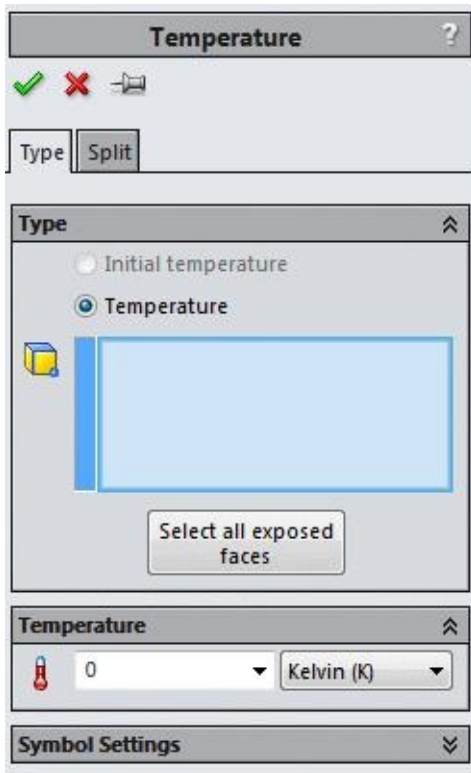

Figure-56. Temperature PropertyManager
- Click on the **Temperature** button from the **External Loads Advisor** drop-down. The **Temperature PropertyManager** will display as shown in Figure-56.